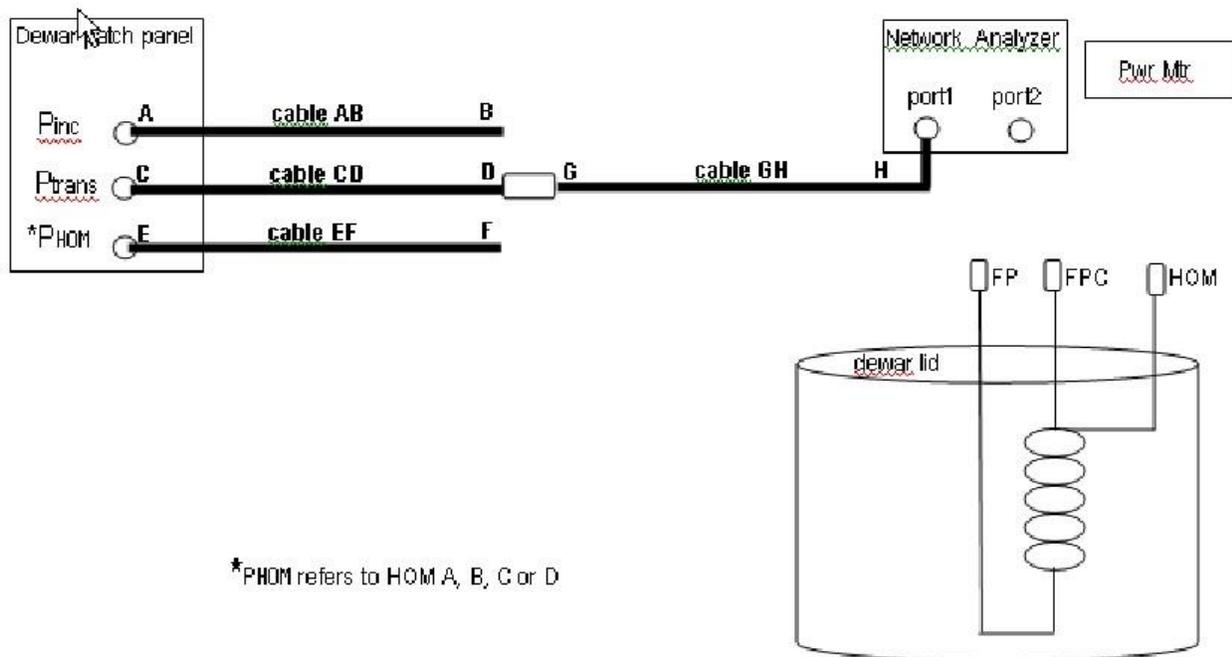

Figure A5. Connect cable CD to cable GH to measure the transmitted power to control room.
- A. At dewar, connect cable CD to cable GH as shown in Figure A5.
- D. Repeat this step for each HOM cable shown as cable EF in Figure A5.